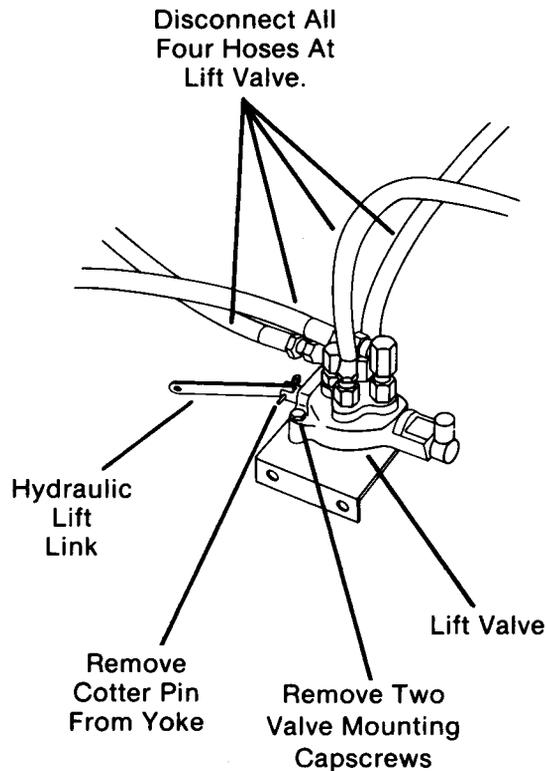

FIG. 93
D. Disconnect all four hoses connected to lift valve. (Fig. 93)
E. Remove cotter pin thru lift valve yoke and disconnect hydraulic lift link from valve. See (Fig. 93)
F. Remove two nuts and lockwashers from bottom of valve mounting bracket and remove capscrews thru valve body out the top. See (Fig. 93)